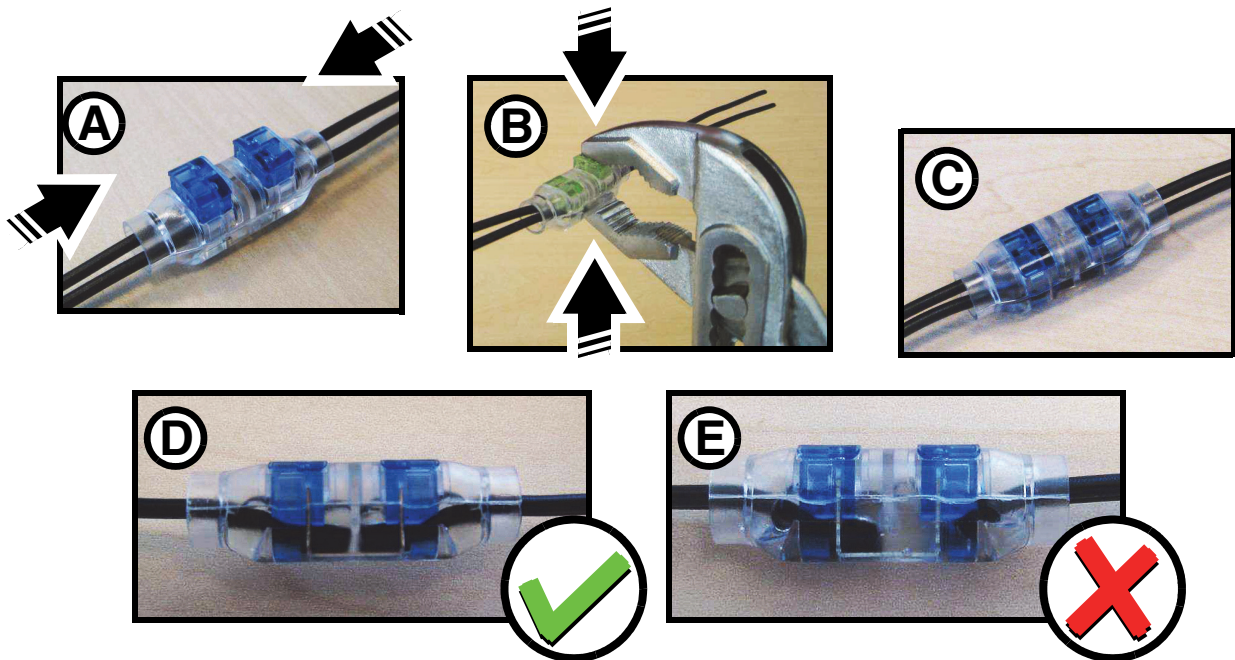

Figure 1: Splicing ribbon cable
4. See Figure 1. Do not strip insulation from wire ends. Push two matching pairs of wire ends into a splice connector until the ends touch the center wall inside the connector (A). Holding the wires in position, use water-pump pliers to press the terminal clamps into the connector (B) until the tops of the clamps are level with the transparent connector body (C).
5. Check that wires are still pressed fully into the connector (D). If there is a gap between wire ends (E), cut off the end of the ribbon cable and the connector, scrap them and start again with a new connector.